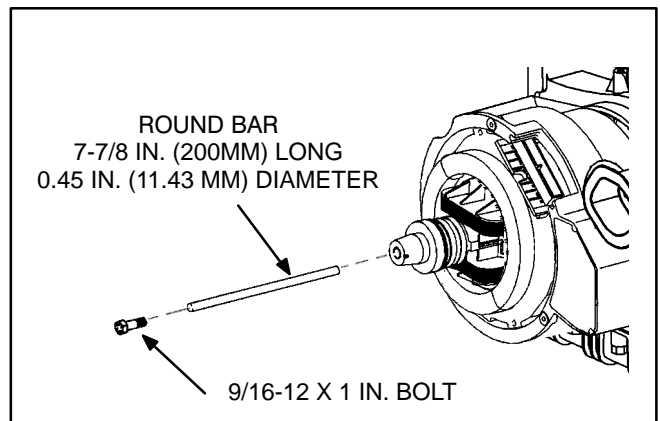

FIGURE 9-4. ROTOR REMOVAL
12. Pull outward on the rotor shaft to remove it. If the rotor does not come loose from the tapered engine crankshaft, install a solid round bar 7-7/8 inches (200 mm) long by 0.45 inches (11 mm) in diameter into the rotor through bolt hole (Figure 9-4). Thread a 9/16-12 x 1 inch bolt into the end of the rotor shaft and slowly tighten the bolt until the rotor comes loose.